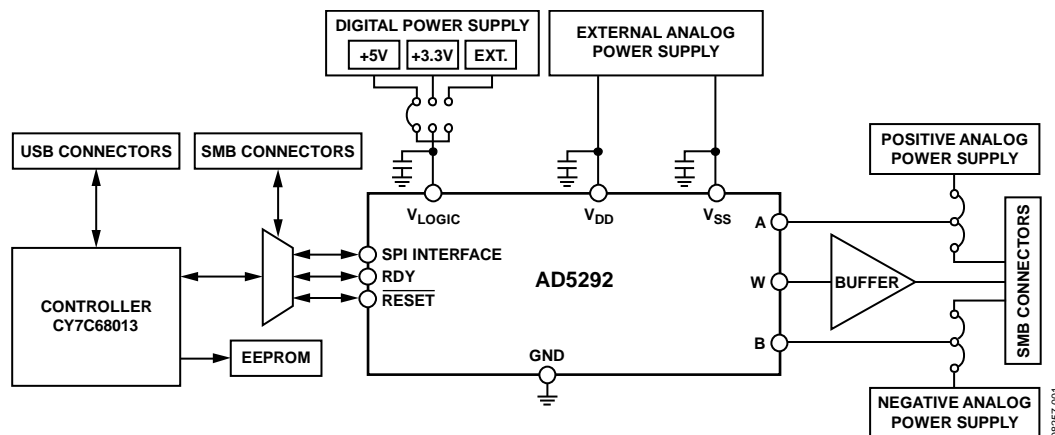

Figure 1.
2. If the PC is not connected to the board via the USB port, a message box advises you, as shown in Figure 1. Check the cable between the PC and the board, and click Retry. If the cable is connected, exit the program and try to reinstall it.